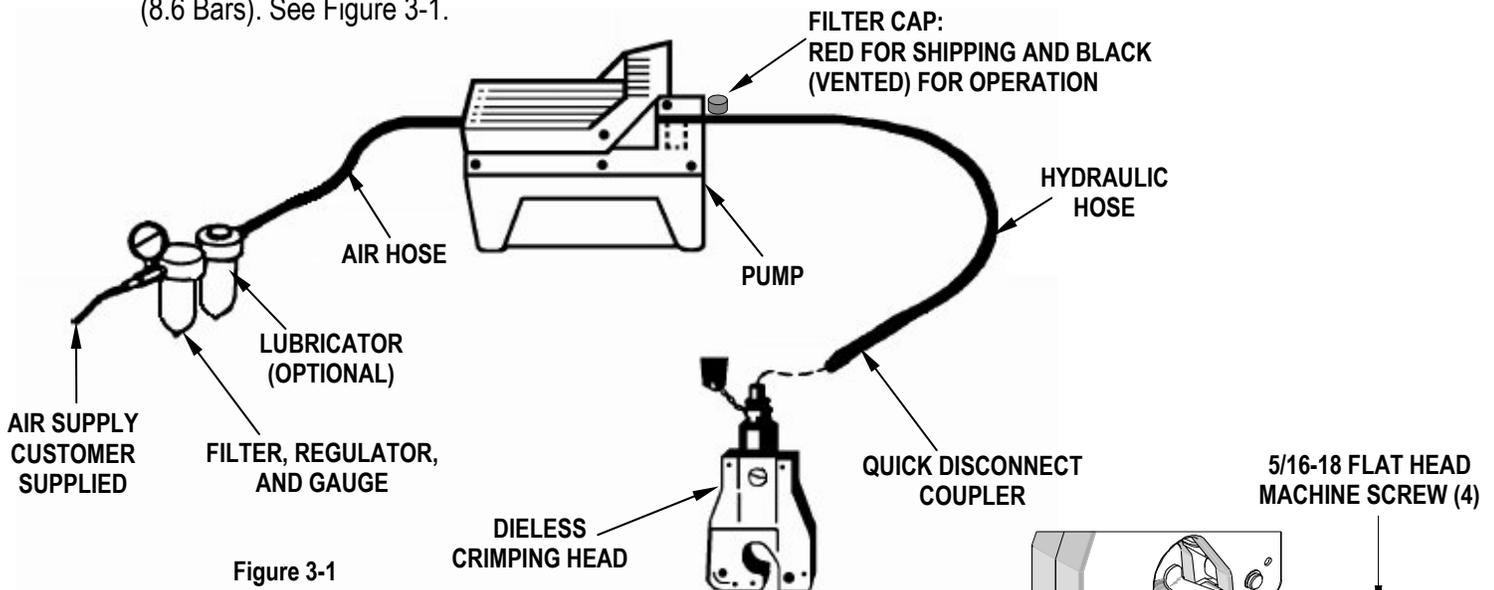

Figure 3-1
2. Next install the fittings to the filter, regulator, gauge unit. The air supply should be 20 CFM (550 L/M) and 100 PSI (6.9 Bars) to obtain the rated hydraulic output. Air pressure should be regulated to a maximum of 125 PSI (8.6 Bars). See Figure 3-1.
2. Connect the quick disconnect coupler onto the cylinder inlet on the crimp head. See figure 3-1.